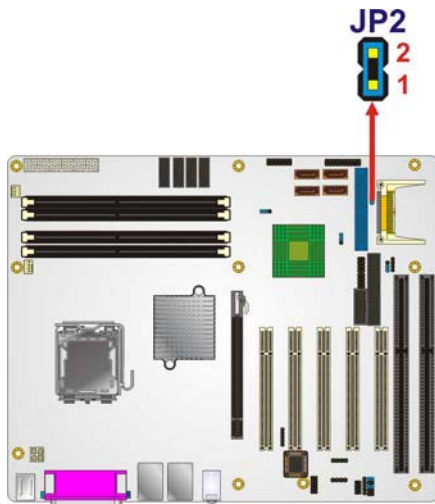

Figure 5-11: CF Card Setup Jumper Location
- Jumper Location:** See Figure 5-11
The CF Card Setup jumper location is shown in **Figure 5-11**.